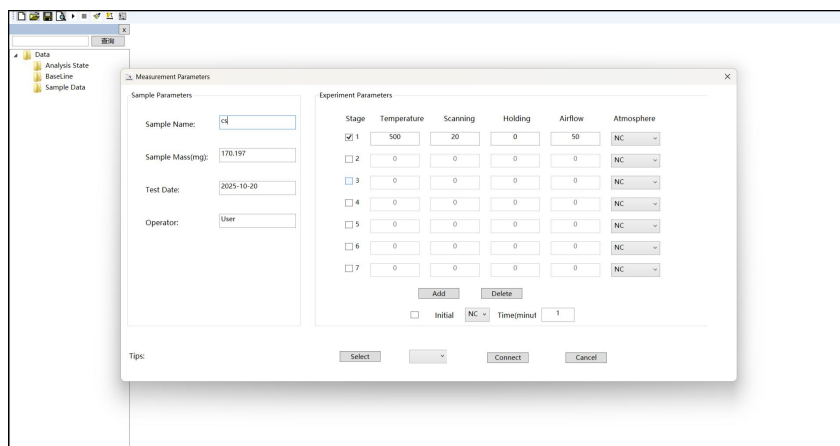

Figure 5-1 Software Main Interface
2.1 Software Introduction: The main interface features a new experiment creation panel where users can specify parameters including laboratory, personnel, name, crucible mass, and experimental atmosphere (select 'air' for non-gaseous environments), as shown in Figure 5-1.